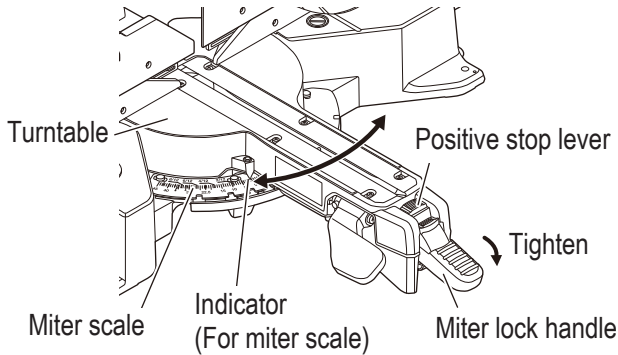

Fig. 33
9. Miter cutting procedures (**Fig. 33 on page 96**)